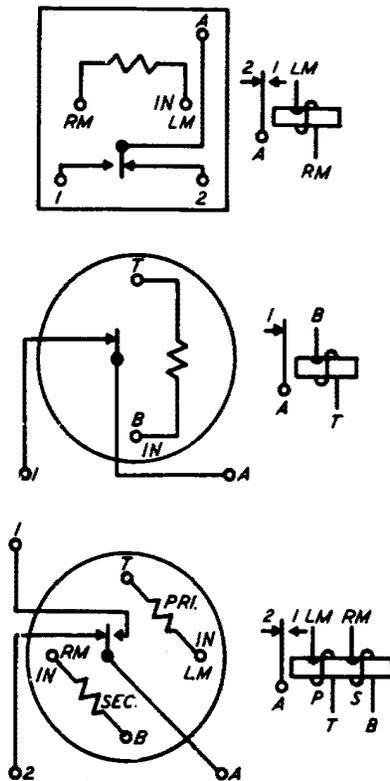

Fig. 31 – Winding and Spring Terminal Arrangement as Viewed From the Rear (terminal side) — 114-, 124-, 126-, 174-, and 198-Type Relays
2.42 The front contact is indicated by 1, the armature by A, and the back contact by 2 except on relays having only a back contact in which case the back contact is indicated by 1 and the armature by A. Fig. 31 shows the relative location of the winding terminals of these relays, as viewed from the rear, when mounted with the retractile spring at the right. The test clip data specified on the circuit requirements table are based on this position of mounting. If the relay is mounted with the retractile spring in any other position, the test clip data should be translated to care for this position of mounting.